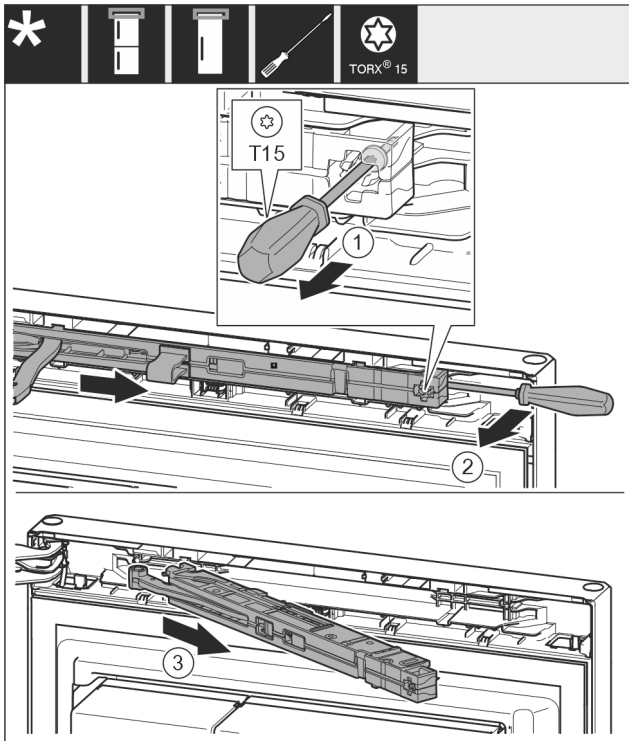

Fig. 11
- ▶ Loosen the screw Fig. 11 (1) on the closing damper unit with a 14 mm (9/16 in) screwdriver.
- ▶ Use the screwdriver to lift out the closing damper unit Fig. 11 (2) on the handle side.
- ▶ Pull out the closing damper unit Fig. 11 (3).